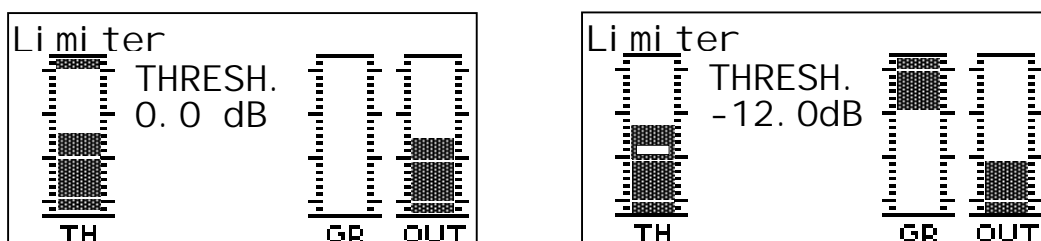

Fig. 22. Limiter display (left) and Limiter Threshold while editing (right)
-) GR (Gain Reduction): This bar shows when the limiter is active (the threshold value is being exceeded by the input level). The gain reduction level will display as an inverted VU bar (see Fig. 22, right).